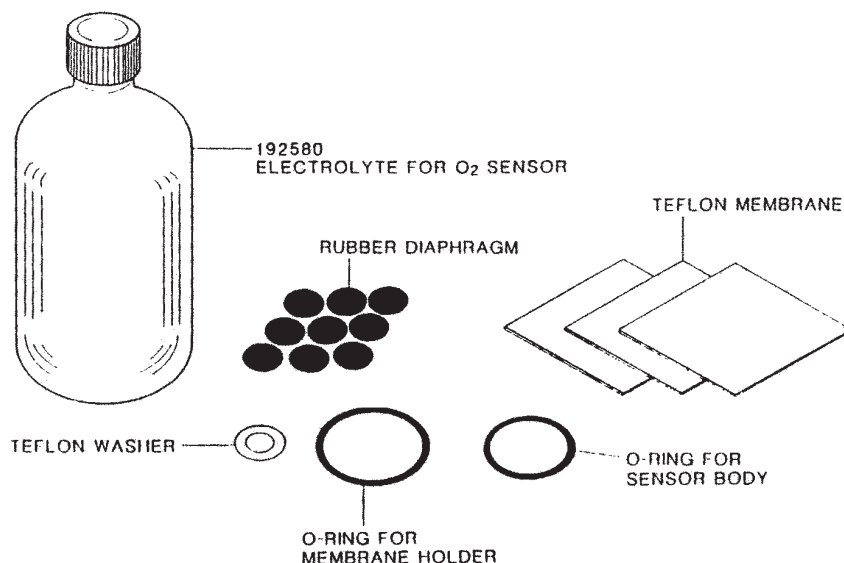

Figure 8-1. Recharge Kit
8.3.1 Recharging The Sensor. The sensor must be removed from the process installation for recharging. A recharge kit, Figure 8-1, provides the necessary materials for recharging. Fresh electrolyte, a new Teflon membrane, and a pressure-compensating rubber diaphragm must be placed in the sensor. The following steps describe how to recharge the sensor.